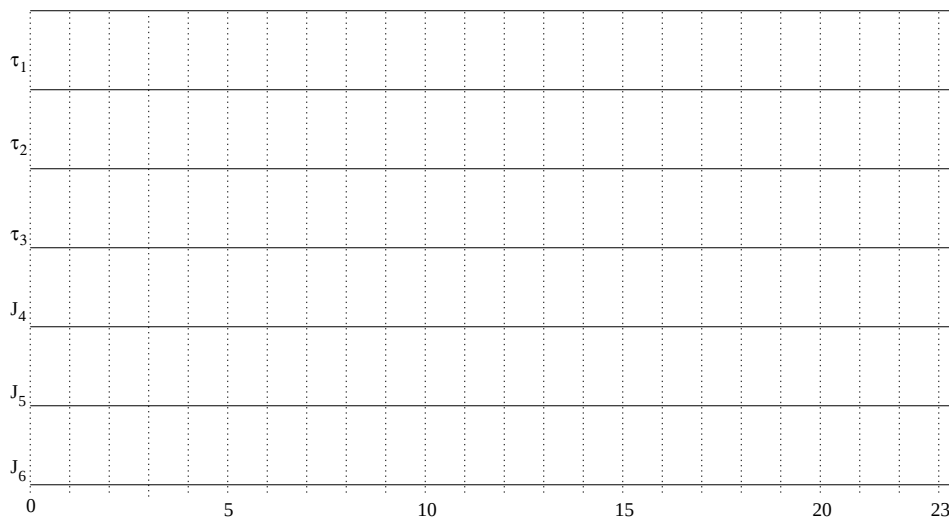

Abbildung 1: Schedule for Aufgabe 1.3 (b)
- (b) (6 Punkte) Consider that $U_s = 0.2$. Construct the EDF schedule in the case that the TBS serves the following three aperiodic requests: $J_4(a_4 = 2, C_4 = 1)$, $J_5(a_5 = 6, C_5 = 2)$ and $J_6(a_6 = 1, C_6 = 1)$ where a_4 , a_5 , and a_6 denote the arrival times of the requests. Use Figure 1 for your answer. Assume that the arrival time of all periodic tasks is 0.